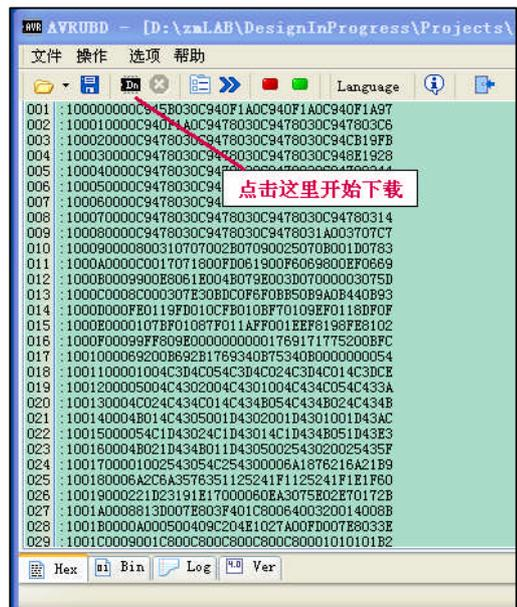
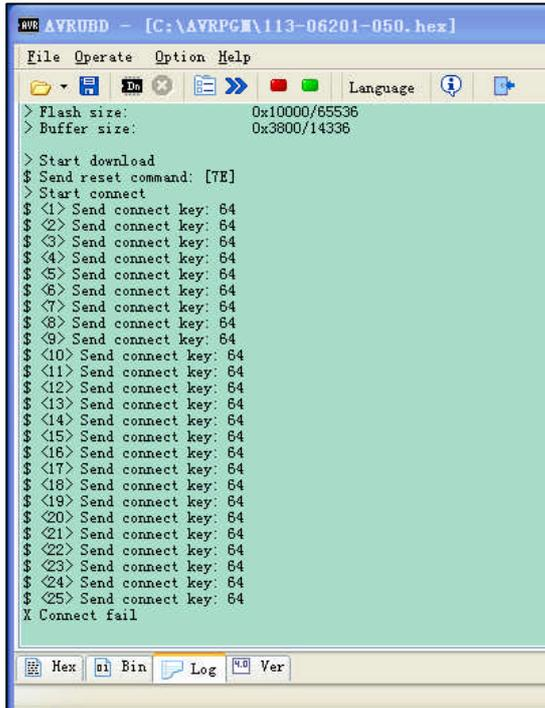

Fig. 7
Fig. 8
- 8) Keep scope power down off. Click on “Dn” icon (see Fig. 7. Alternatively you can click on “Operate – Download” from the main menu) and power up the scope right after. You will see AVRUBD is trying to communicate with the scope board. If handshake failed you would see screen like that of Fig. 8.